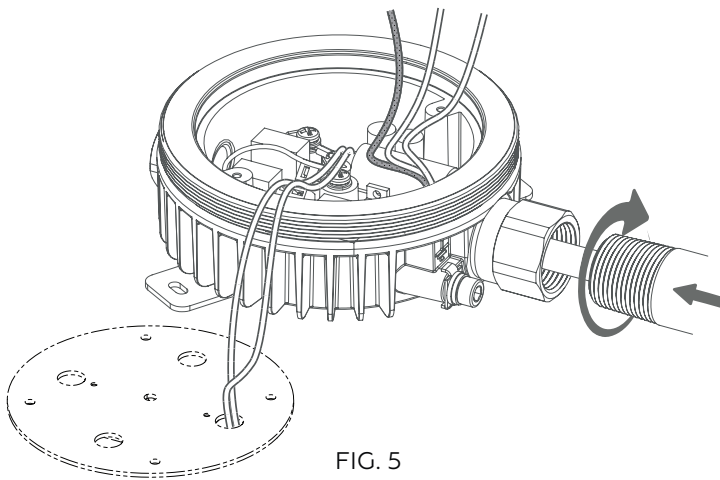
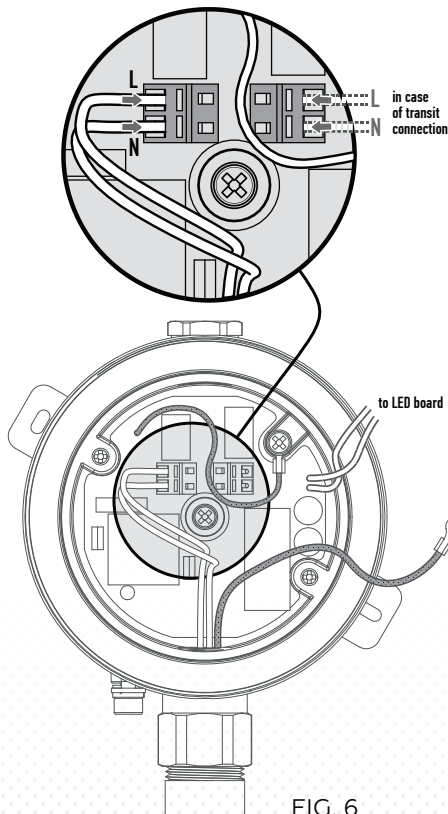
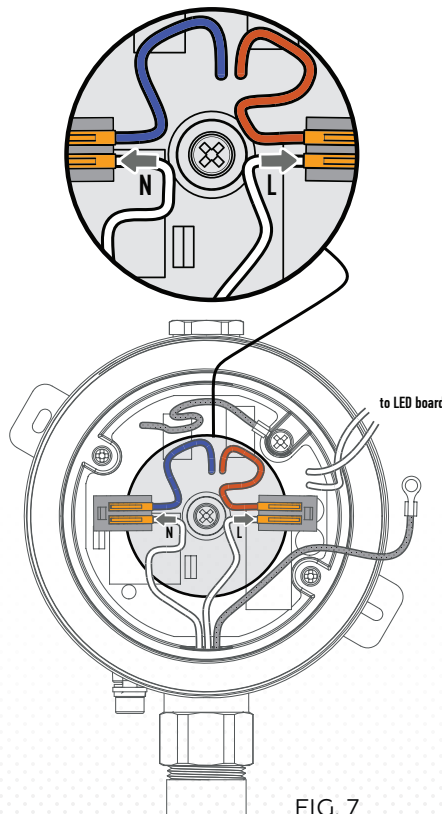
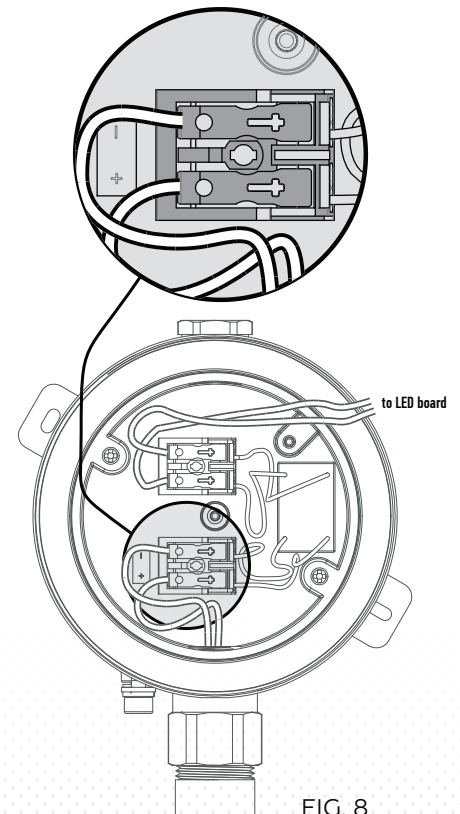

FIG. 5
FIG. 6
FIG. 7
FIG. 8
4. After installing the cable into the CID1 cable entry (see Fig. 5), connect the power and neutral wires to the SMD terminals (OPTION #1) or splicing connectors (OPTION #2) on the driver as per the designations. If transit connection is required, use the second SMD terminal (See Fig. 6). For RV 120-277 VAC power supplies connection, see Fig. 6 (OPTION #1) and Fig. 7 (OPTION #2). For LV 12-24 VDC power supplies connection, see Fig. 8.